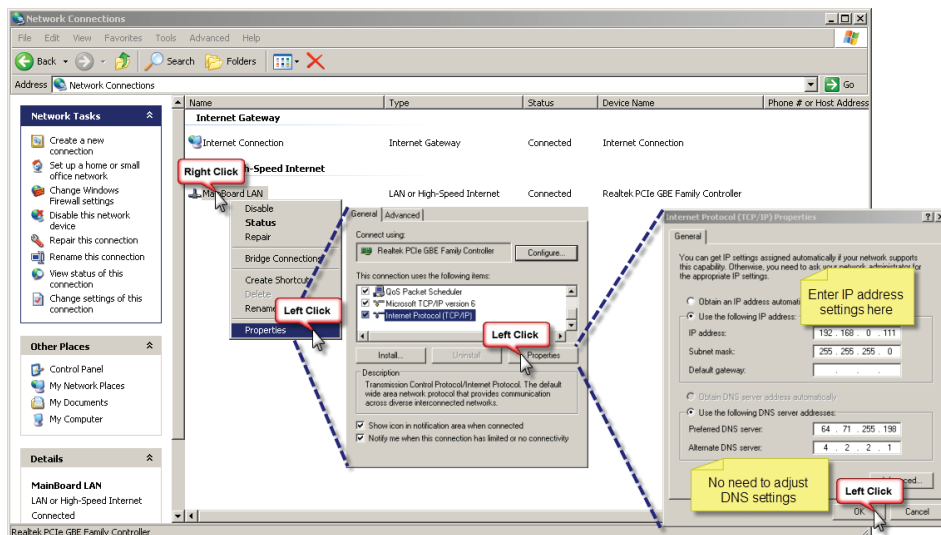

Figure 5-3: Setting the Management Computer IP Address
2. Set the Management Computer’s Ethernet interface to a static IP address on the 192.168.0.x subnet, as described in Figure 5-3.